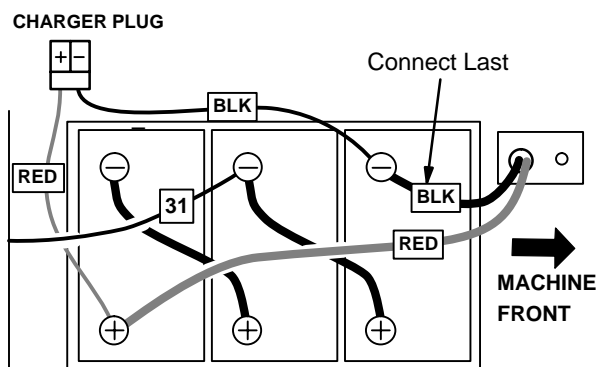

Fig. 8
10. Carefully turn the machine to the upright position and reinstall the batteries (Figure 8).